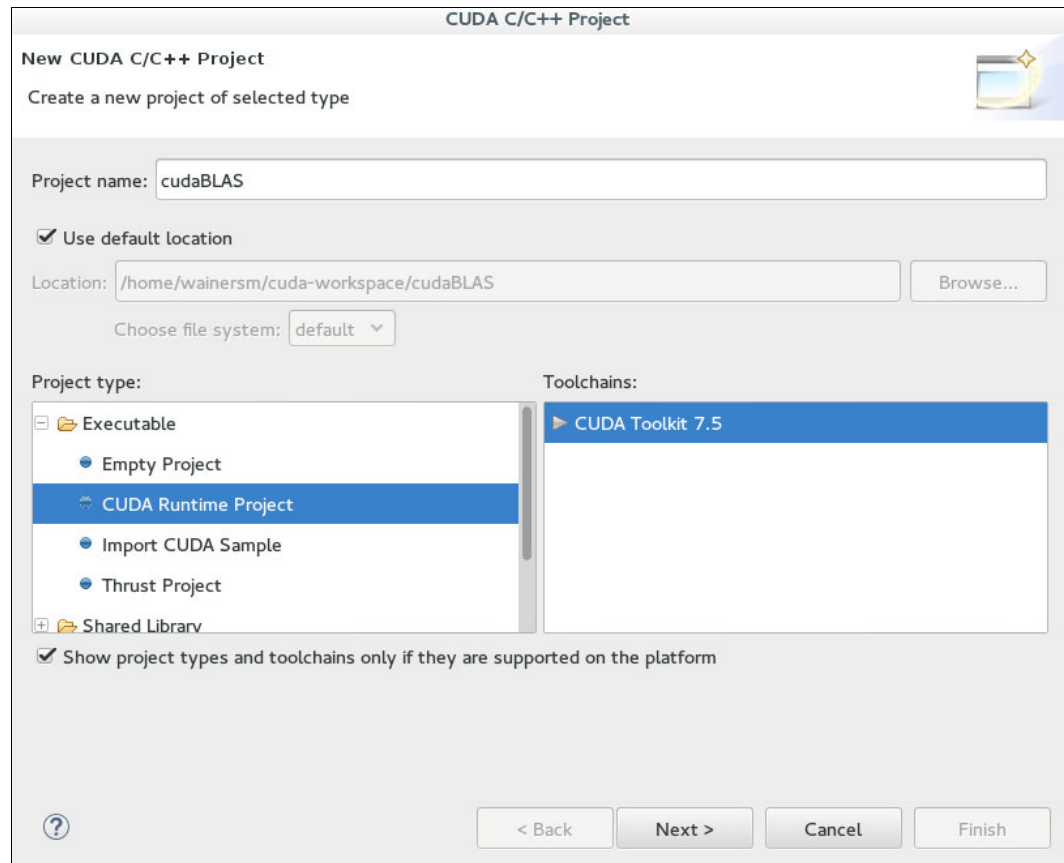

Figure 9-33 Nsight: New CUDA C/C++ project wizard
1. On the main menu toolbar, click **File** → **New** → **CUDA C/C++ Project** to open the window that is shown in Figure 9-33.